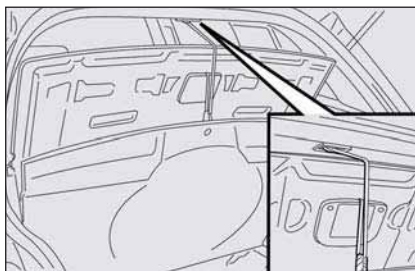

fig. 3
- ☐ Make the wire secured under the loading surface (where provided), pass through the proper slot secured to the boot shelf mat and fasten both to the hook on the upper roof, as shown in **fig. 3**;